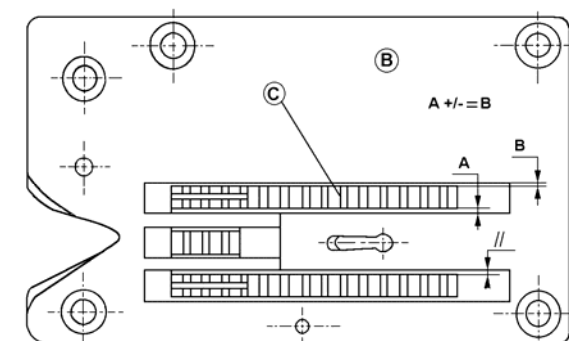

Fig : 19
-Refer to Fig:19. Look at the feed dog (C) from the top. The sides of the feed dog (C) must be parallel to the sides of the slots in the throat plate (B).